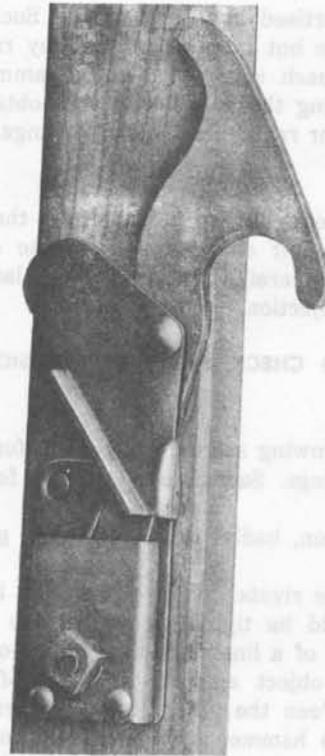

Fig. 37—Spring Lock
**10.34** One type of lock with which standard ladders are equipped is shown in Fig. 37.